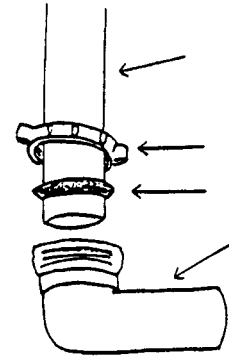

Figure 1a
2. Slide the nut and gasket onto the tube. (Figure 1a)